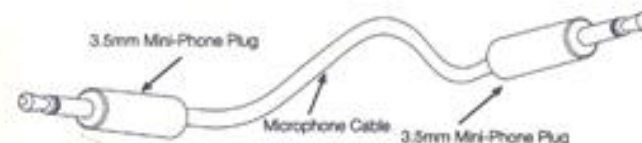

Figure 14 Master/Slave Cable
4. Using a 3.5mm mini-phone plug (NOT SUPPLIED- see figure 10) for both the output and input, SOLDER a small gauge shielded cable to both mini-phone plugs. Make sure that the cable is at least 4 inches longer than the measured distance. This will allow for running the cable with gentle bends to each amplifier. (See figure 14)